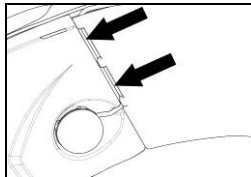

Fig. 17
- Position the microphone wire in the vertical groove and afterwards behind the cheek pad lining (Fig. 17 – 17B). If necessary, lift up the groove tabs and the cheek pad lining using a flat head tool (supplied as standard equipment).